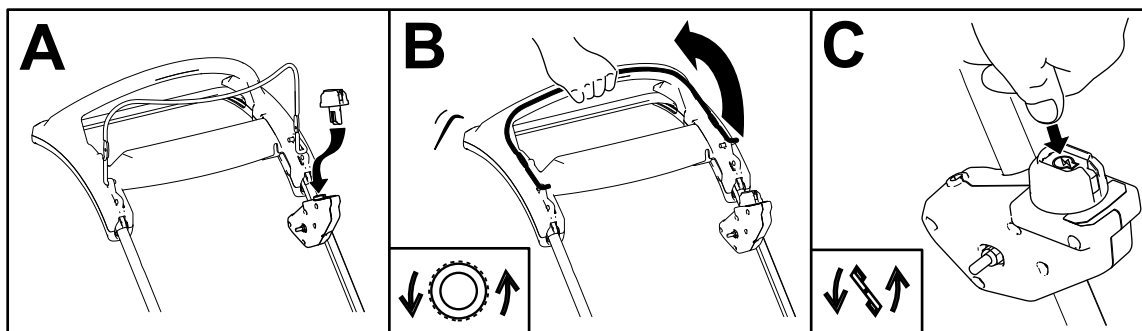

Figure 13
2. Insert the electric-start button into the electric-start switch (A of Figure 13).
3. Squeeze the control bar and hold it to the handle to power on the machine and engage the self-propel drive (B of Figure 13).
4. Press the electric-start button to engage the blades (C of Figure 13).